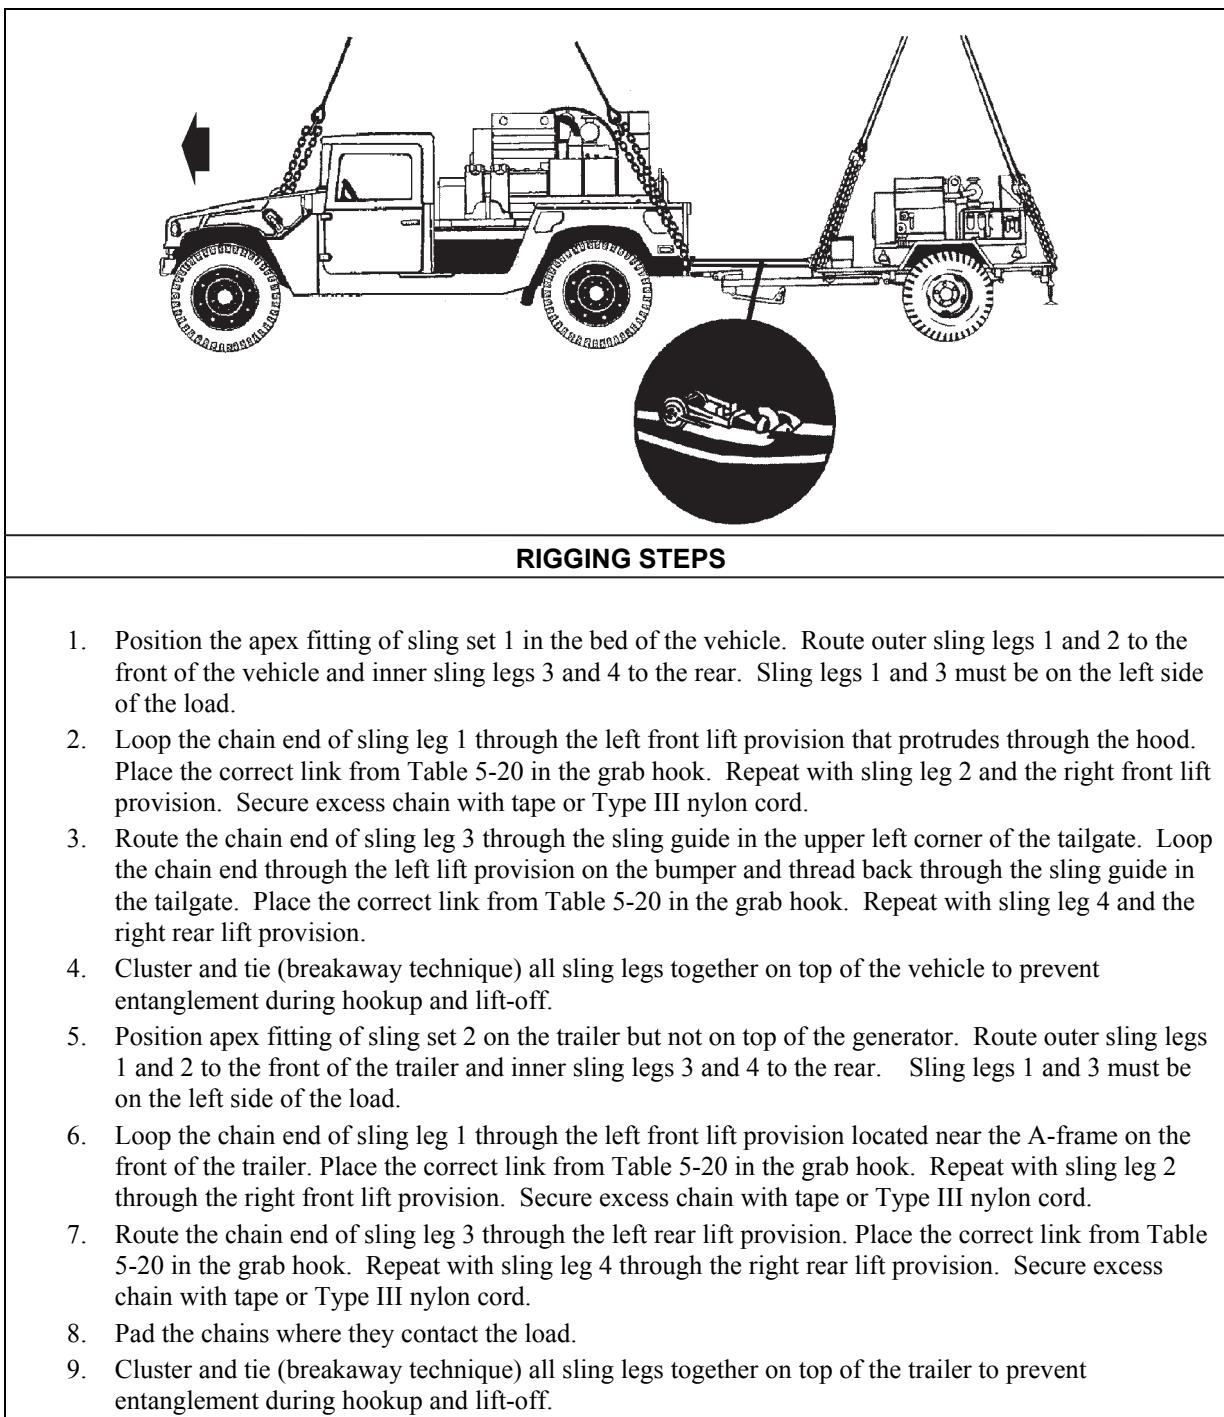

Figure 5-20. M1097, 1-1/4 Ton with Generator Pallet Group and G-85/TPQ-36 Generator Group
- **Rigging.** Rig the load according to the steps in Figure 5-20.